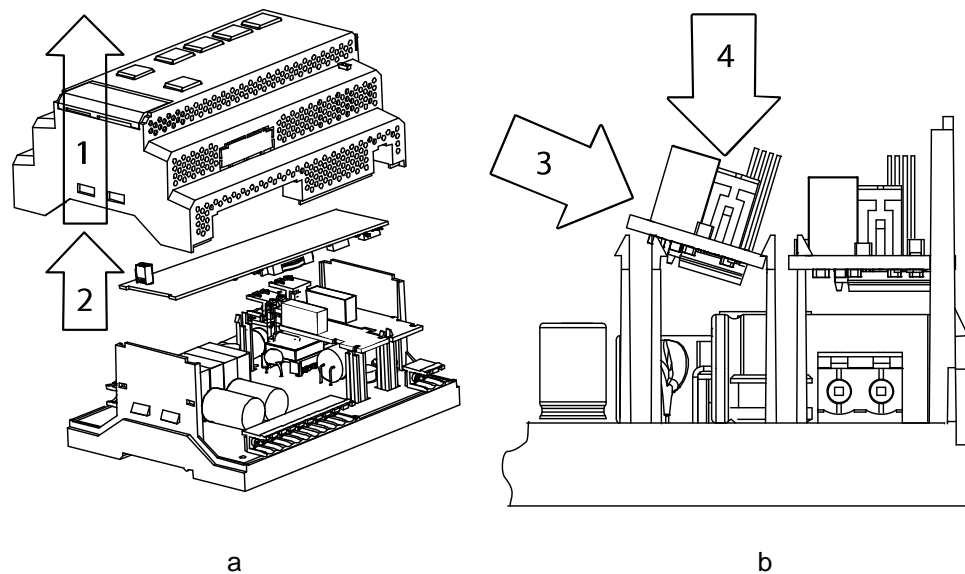

Fig. G.1
1. Remove the front cover with the keypad (Fig. G.1).